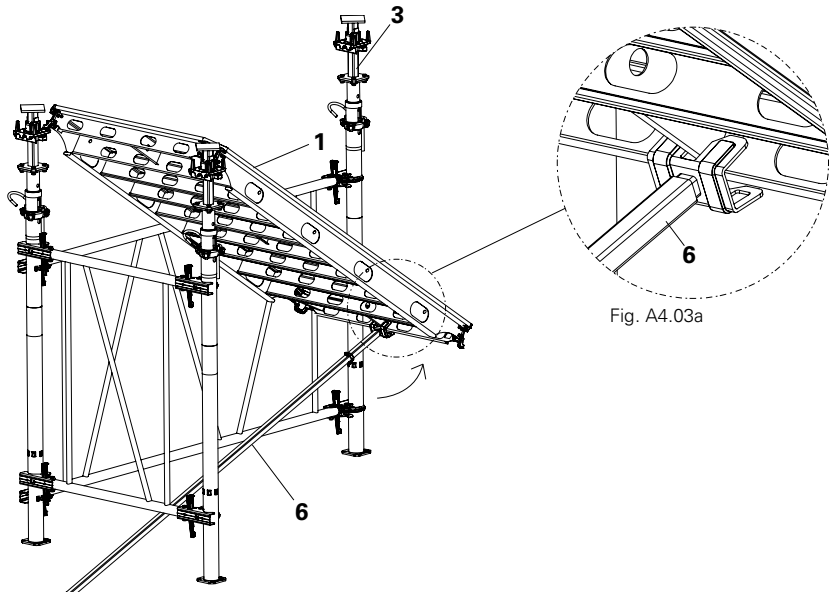

Fig. A4.03
6. Swing the panel ADP (1) upwards with the shuttering aid (6) and hook on the third prop (3). (Fig. A4.03)